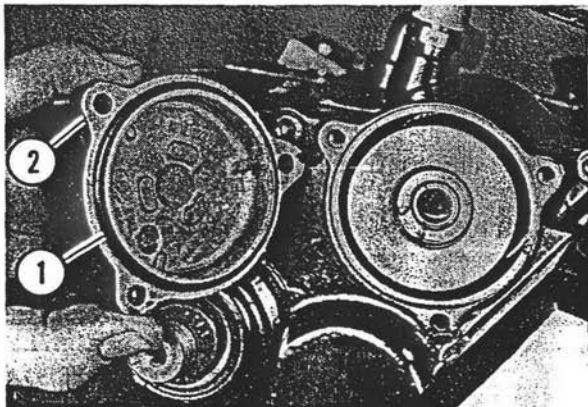

Figure 3-4. Oil Filter and O-Ring
6. See Figure 3-4. Remove O-ring (1) from cover (2).
3. See Figure 3-4. Install new O-ring (1) on filter cover (2).